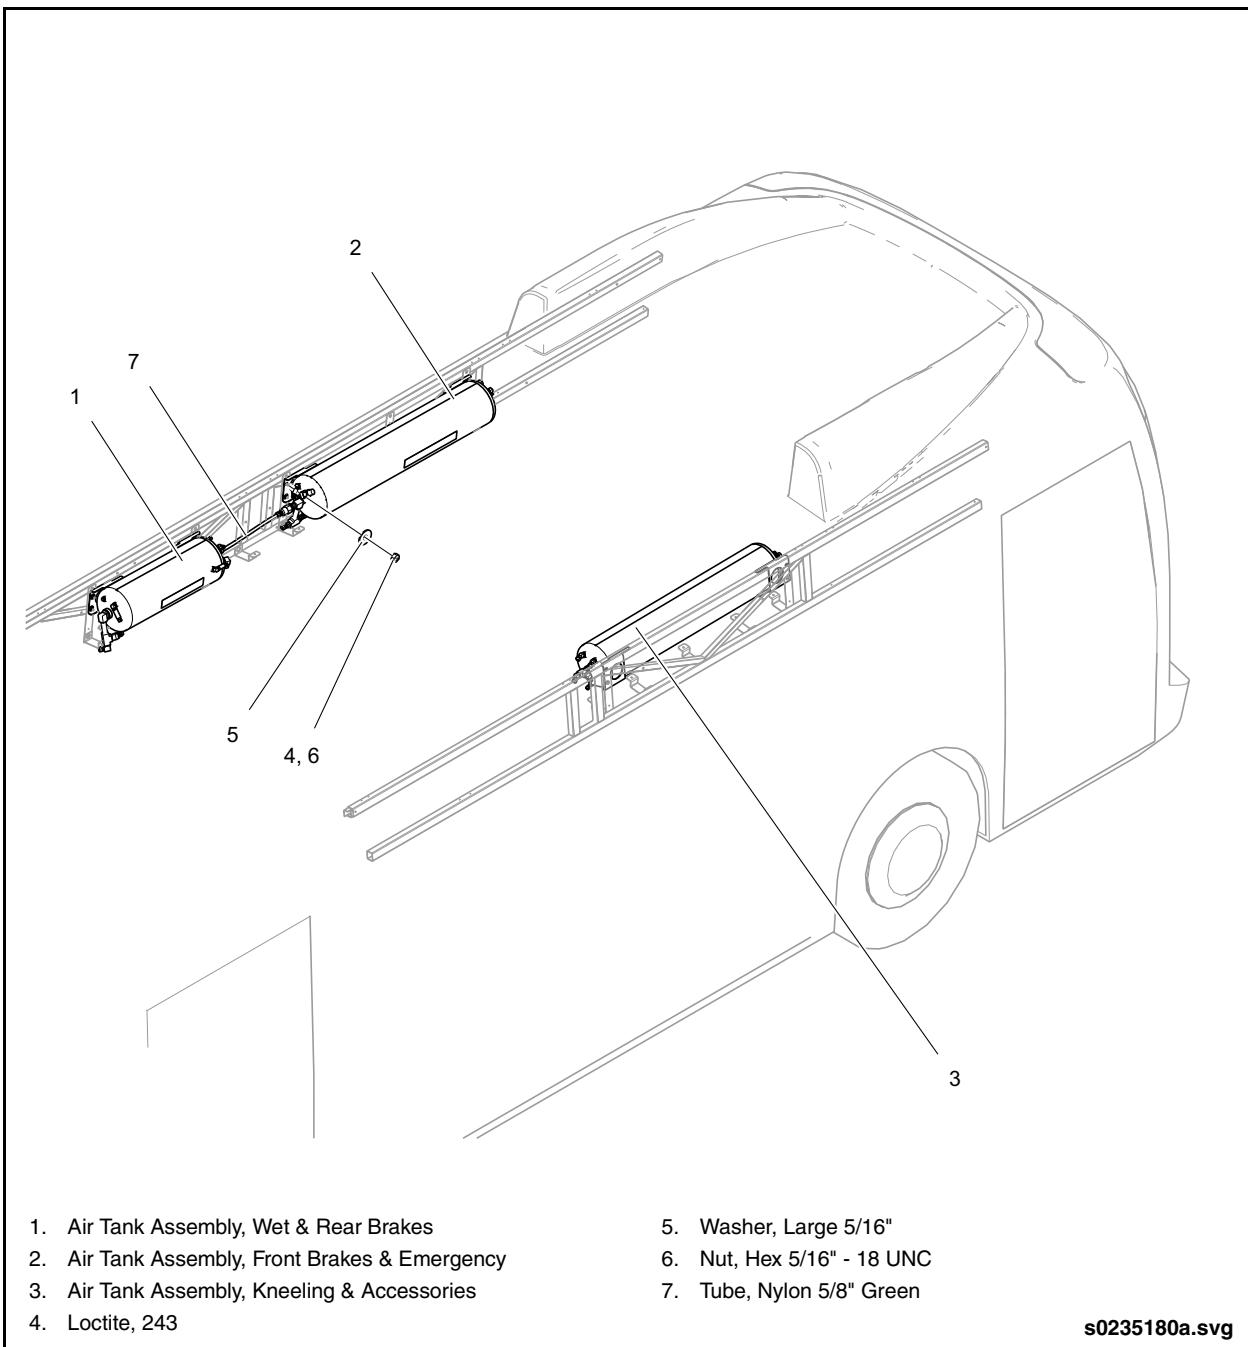

Fig. 8-9: Air Tank Locations
2. Obtain access to the air tank behind the fluorescent light panels. See "Fig. 8-9: Air Tank Locations" on page 47.